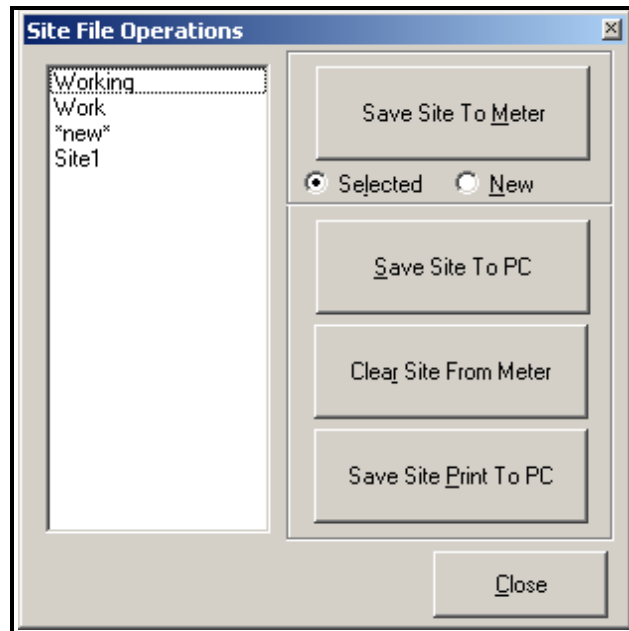

Figure D-14: The *Site File Operations* Window
To access site files, click on the *Site Files* button in the *Properties* window. The *Site File Operations* window (shown in Figure D-14 below) opens.
1. Highlight the desired site in the left pane. (See Figure D-14 on page D-12.)
1. Highlight the site in the left pane (see Figure D-14 on page D-12).